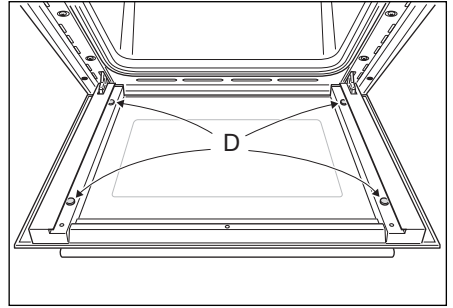

Fig.43a
- Check that the four rubber pads are in place ("D" in Fig. 43a).